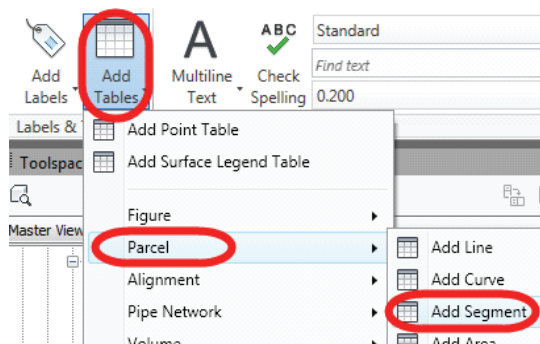

Figure 2–63
- In the Table Creation dialog box, click  (Select on screen) and select the labels shown in Figure 2–64. Press <Enter> when done.